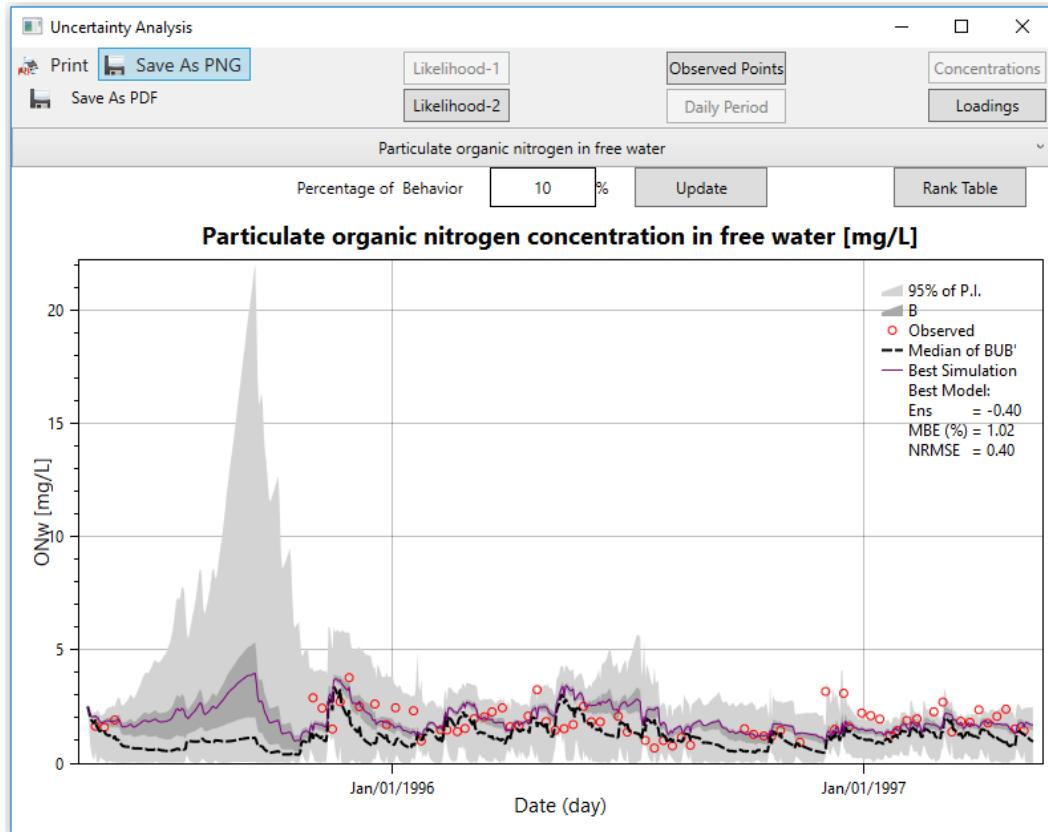
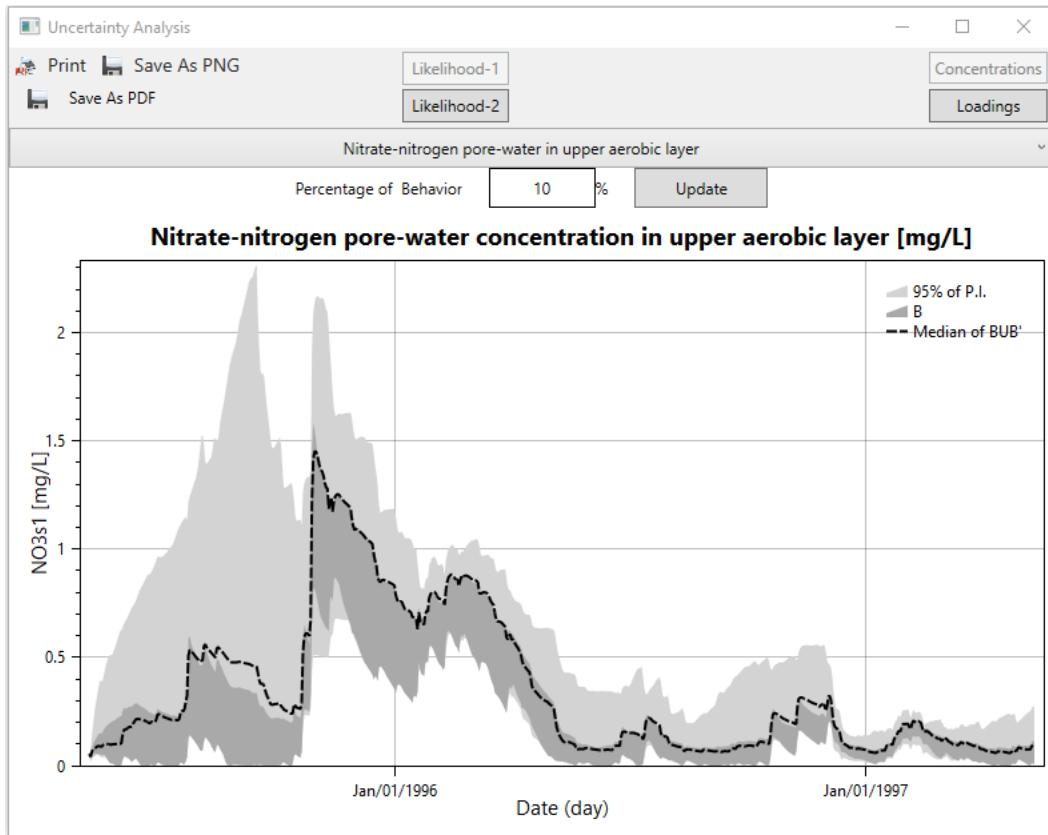
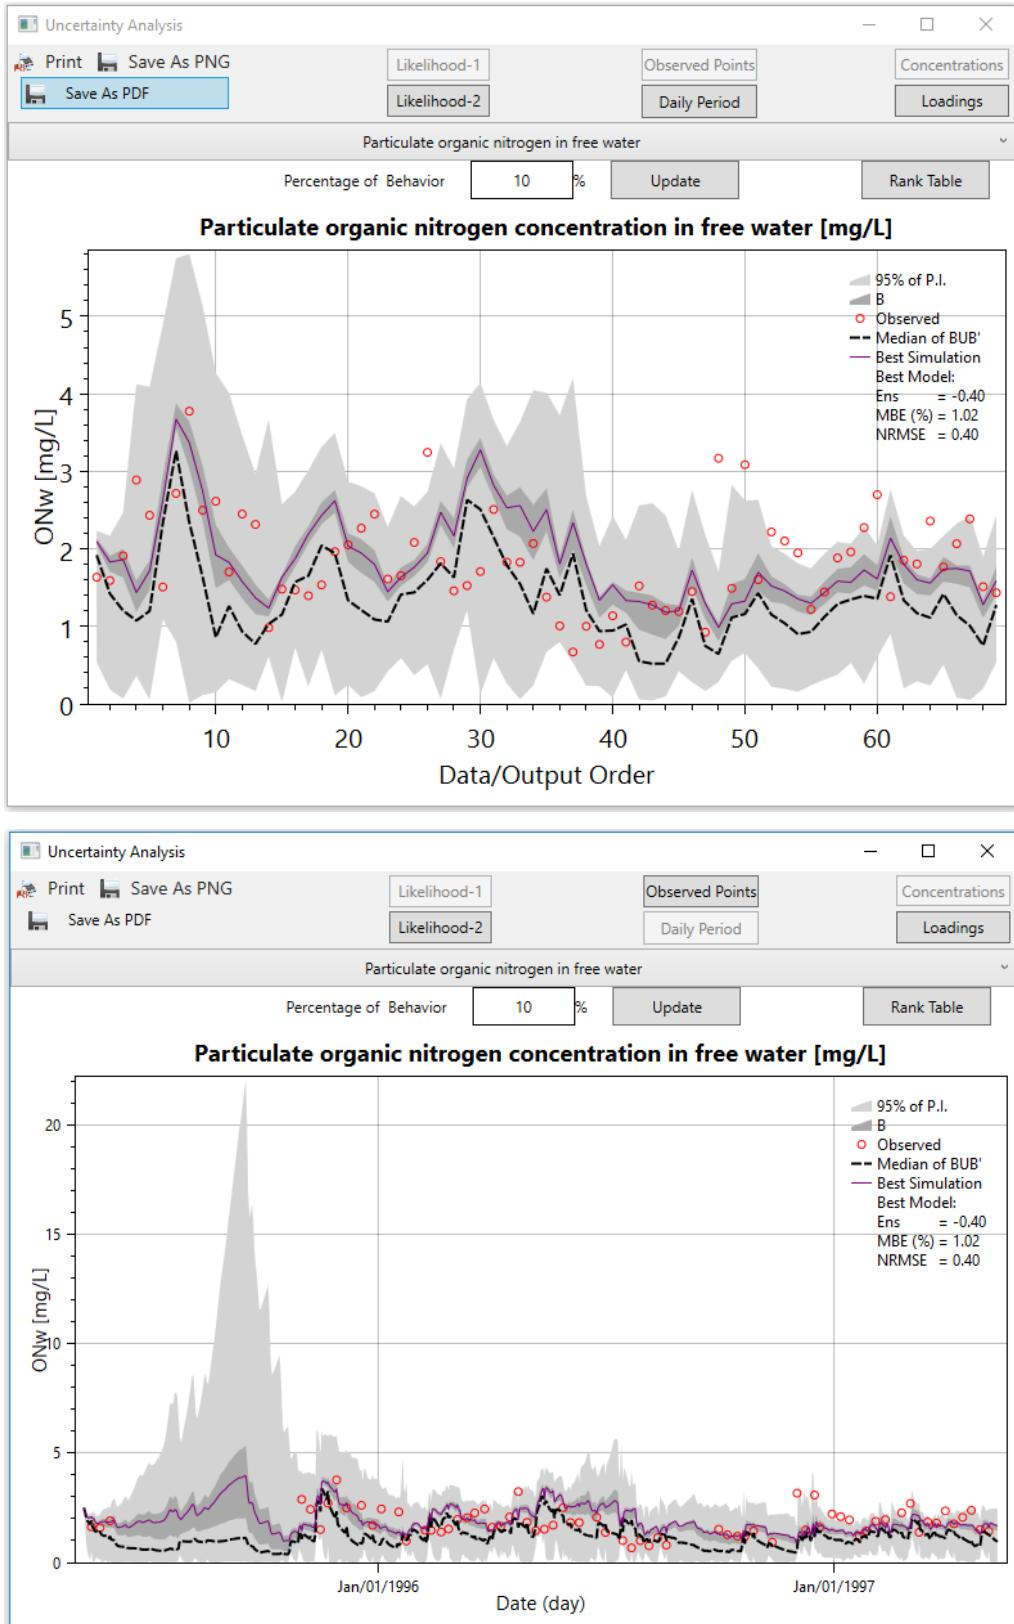

Figure 3.75
Figure 3.76
Figure 3.78
The user can update the results of the likelihood calculations by changing the percentage of their behavioral simulations from 1 to 10. For instance, if user selects 5%, then the simulations that produced the highest 5% likelihoods are selected as behavioral (B), and rest become non-behavioral (B'). The user needs to select the desired threshold. In the next step, behavioral (B) and non-behavioral simulations (B') are separated. Following this, a graph for each model output is depicted which includes observations, behavior set (B), 95% prediction interval (P.I.) of BUB', and the Median of all the simulations. Figure 3.75 shows an example graph of the Uncertainty Analysis window. The graph in the Uncertainty Analysis window also shows the performance metrics  $E_{NS}$ ,  $MBE$  and  $NRMSE$  for the best simulation which is the simulation having the highest  $L_k$  or  $E_{NS}$ .
The GUI also writes these performance values to a text file and saves it under the name “*Performances\_GLUE\_102\_Onw.txt*” (for Onw as selected model output) under the folder: “..*ProjectName*>InputOutput>*glue*”. When there is no observed data to calculate the likelihood values, 95% P.I. for the whole simulations, as well as the median of the whole simulation are displayed. If there is no observed data for a constituent but its immediate parent constituents have data, their joint likelihood values are used to determine the behavioral set. In this case, the GUI also plots behavior set (B). Figure 3.76 displays an example of the situation where there is no measured data but parent constituents have observed data.
As can be seen in Figure 3.75, there is a button on the upper right side of the window named **Rank Table**. Clicking on that button generates a table similar to Figure 3.77, which provides the user with a table summarizing all the calculated likelihoods and  $E_{NS}$  values in descending order. Whenever the user opens the Rank Table window, the GUI saves the table as a text file (e.g. “*RankTables\_102\_Onw.txt*”) under the >InputOutput>glue folder. The user has also an option to save the Rank Table under a different file name at any folder by clicking the **Save** button on the top right corner of the Rank Table window. As can be seen in Figure 3.76, the **Rank Table** button is invisible when there is no measured data.
If observed data are daily or instantaneous values or not available, the GUI will plot GLUE results in a continuous time scale as shown in Figure 3.75 and Figure 3.76. If observed data are flow-weighted average of a certain number of days, the GUI will plot the results only for those periods with no time association (Figure 3.78-top). Users can also see the plot for the daily output by clicking the **Daily Period** (Figure 3.78-bottom). In this case, the observed data will be assigned to the last days of each sample collection on the graph. Clicking the Likelihood-1 or Likelihood-2 button reverts the plot to its previous state. The performance metrics will always be calculated using the flow-weighted values.